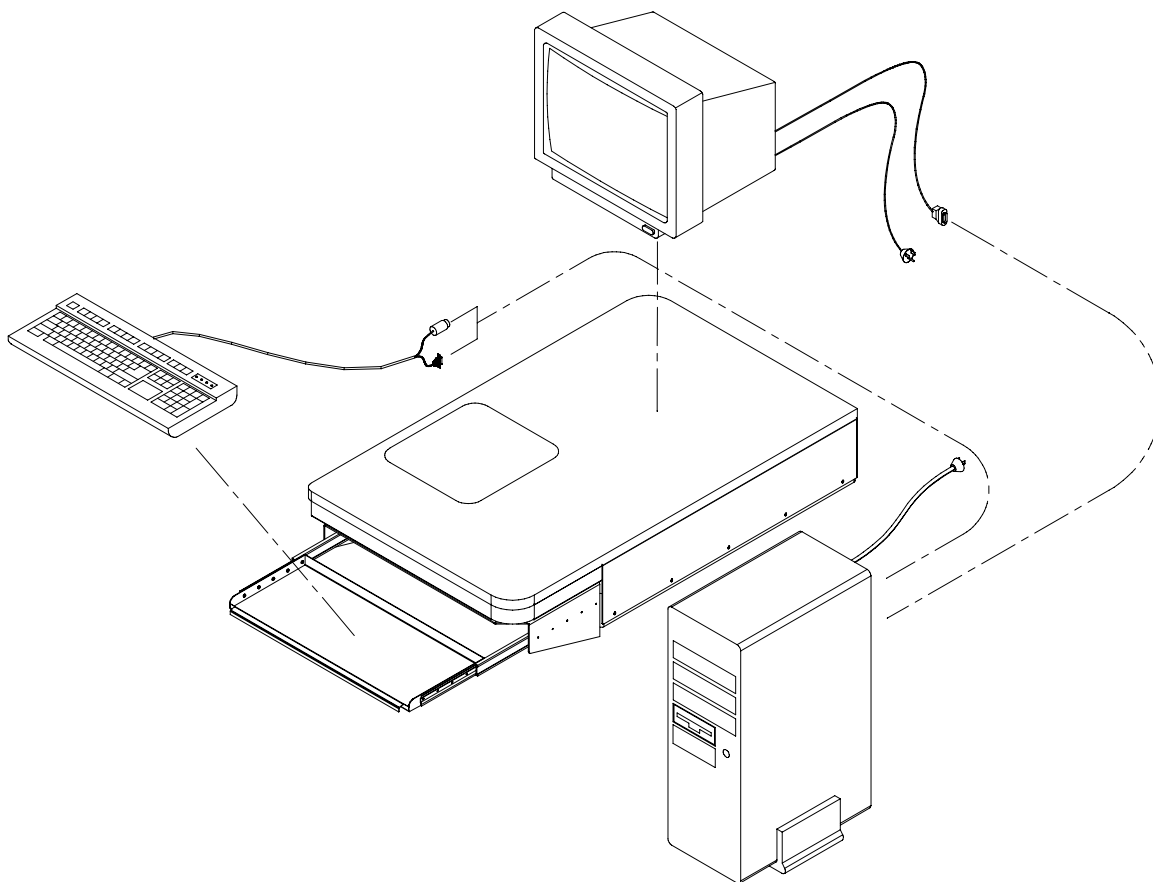

**Figure 1-4**
3. Install the end cover as shown in Figure 1-4. The screws for the covers are installed on the machine.